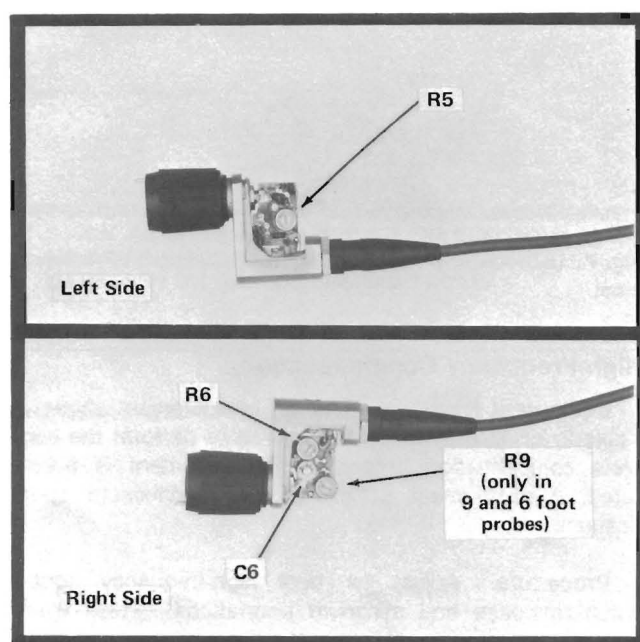

Fig. 9. Location of high-frequency compensation adjustments.
2. Adjust R5 and R6 (also R9 with the 6-ft. and 9-ft. probes) for the best overall flat response. See Fig. 9 for adjustment locations.